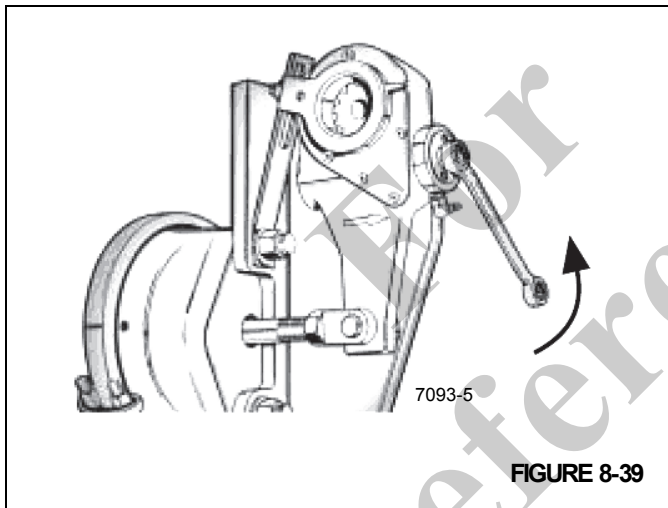

FIGURE 8-39
7. Rotate the adjusting hex approximately 1/8 turn in the direction required and re-measure the stroke. Continue this process until the stroke is within limits. A minimum of 17.6 Nm (13 lb-ft) of torque is required to turn the hex and overcome the internal clutch. A ratcheting noise will be heard. Do not use an impact wrench or internal damage will occur (Figure 8-39).
9. If installation indicator is not positioned properly, refer to Figure 8-39. Loosen fastener holding indicator to anchor bracket, rotate indicator as required and retighten fastener.
8. With brakes released, check installation indicator Figure 8-38 and Figure 8-39 to determine proper adjustment.